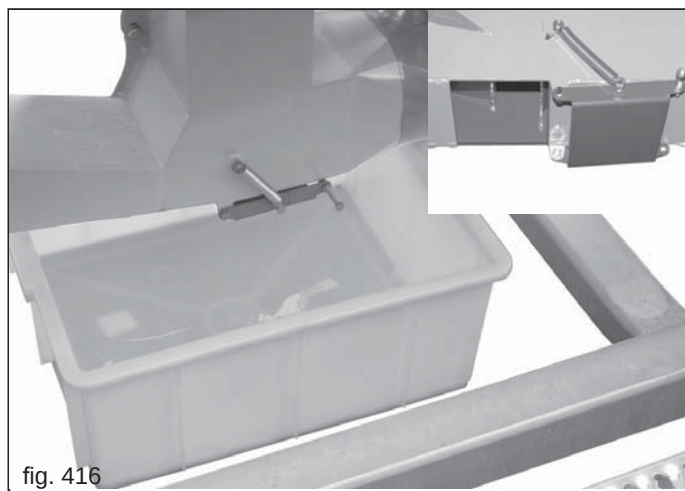

fig. 416
- 3) Position the required container under the metering unit and open the spouts for product discharge (Fig. 416).